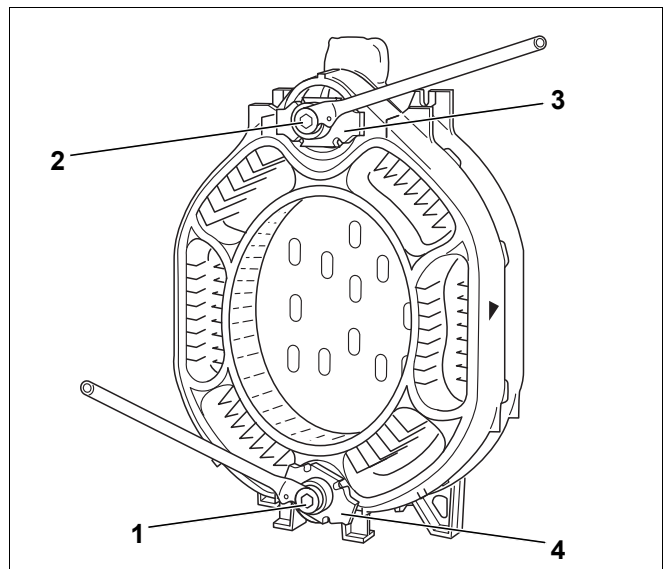

Fig. 14 Application of the boiler compression tool
Now compress the boiler block section with the compression tool (→ Fig. 14).
Use only boiler compression tools size 2.2 or 2.3 (Fig. 1 or Fig. 2 and Fig. 14, [1] & [2]).
- Push the compression units (→ Fig. 14, [3] & [4]) onto the pull rods (Fig. 1 or Fig. 2, [4]).